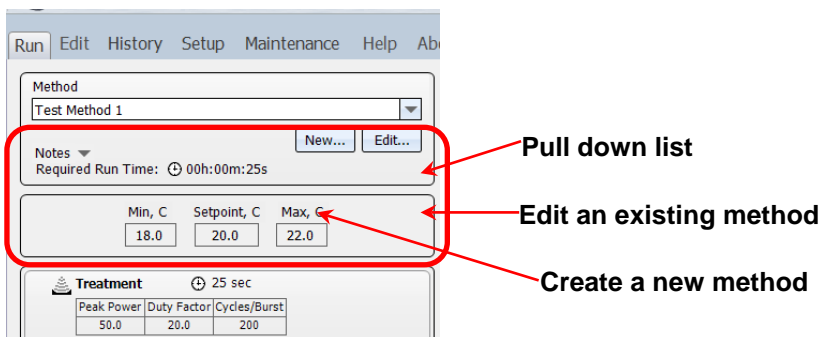

Figure 4.1 – Controls for creating and editing a method
5.1 To create a new method, click the “New...” button in the “Method” window (see Figure 4.1).
- 5.2** To edit an existing method, pull down the name of an existing method (see Figure 4.1) and click "Edit..."